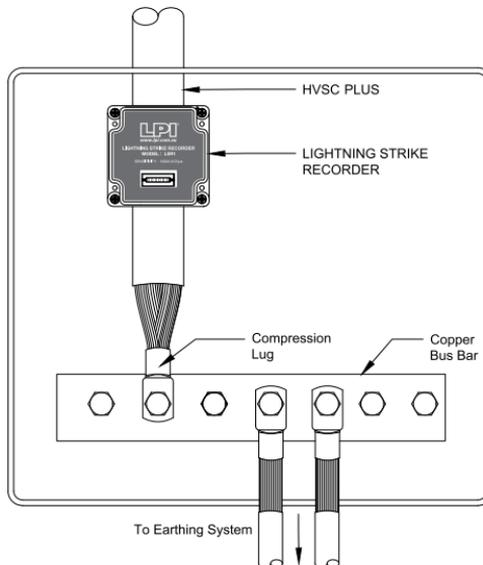

Figure 20.
6. If terminating the lower end of the HVSC Plus to a bus bar, connect to the bus bar as per Figure 20.